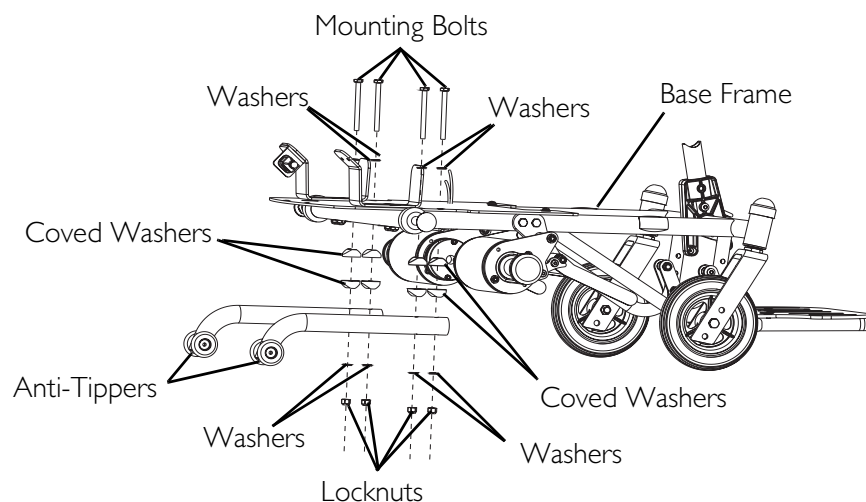

FIGURE 12.1 Removing/Installing the Anti-Tippers - At'm
NOTE: For this procedure, refer to FIGURE 12.1 on page 72.
4. Remove the two mounting bolts, four washers, two locknuts, and four coved washers that secure the anti-tipper to the base frame (FIGURE 12.1).
1. Install the anti-tippers to the base frame using the two mounting bolts, four washers, two locknuts, and four coved washers that secure the anti-tipper to the base frame (FIGURE 12.1).